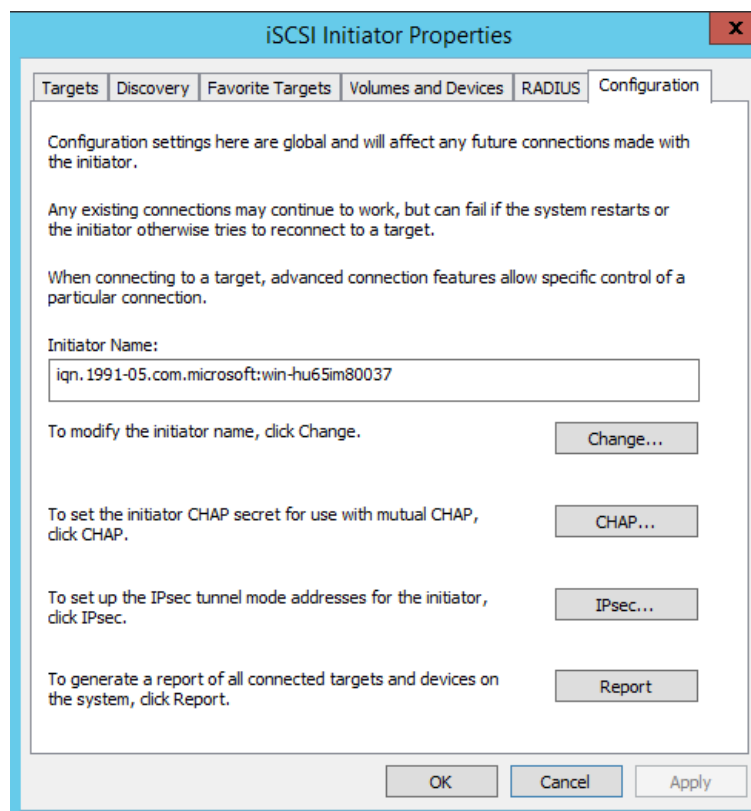

Figure 9-17. iSCSI Initiator Properties, Configuration Page
- b. On the Configuration page (Figure 9-17), click **Change** next to **To modify the initiator name**.